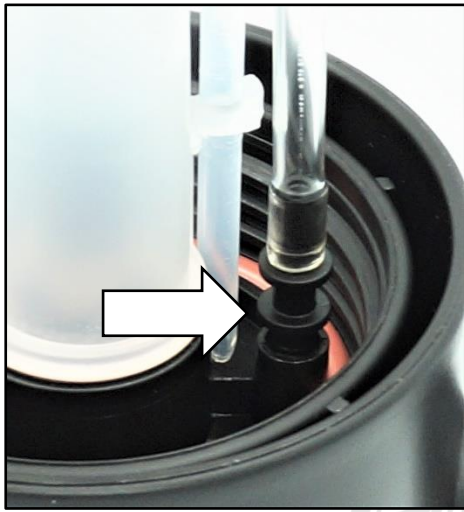

Figure 1
1. Press blue Pressure Relief Valve (8) to relieve pressure inside Canister (14)
2. Separate Foamer Sprayer Housing (7) from Canister (14)
3. Remove **Foam** Liquid Pickup Tube (Black) (13) by pulling the fitting as indicated by the arrow in *Figure 1*
4. Store **Foam** Liquid Pickup Tube (Black) (13) in a safe place for reuse